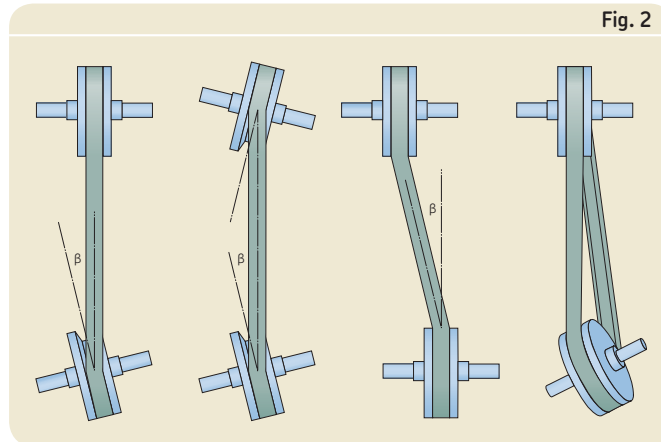

Fig. 2
- 1 Pulleys are properly aligned. Maximum allowable misalignment β is $0,3^\circ$ or 5 mm / 1 m of centre distance. Values greater than those listed will reduce the belt service life and cause edge wear. Misalignment is represented by the ways shown in **fig. 2**. A straight edge should be used to check proper alignment as in **fig. 3**.